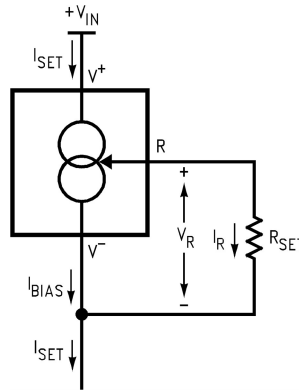

Figure 13. Basic Current Source
- (1) Unless otherwise specified, tests are performed at $T_j = 25^\circ C$ with pulse testing so that junction temperature does not change during test
- (2) Set current is the current flowing into the V^+ pin. For the Basic 2-Terminal Current Source circuit shown in Figure 13, I_{SET} is determined by the following formula: $I_{SET} = 67.7 \text{ mV}/R_{SET}$ (@ $25^\circ C$). Set current error is expressed as a percent deviation from this amount. I_{SET} increases at $0.336\%/^\circ C$ @ $T_j = 25^\circ C$ ($227 \mu V/^\circ C$).
- (3) I_{SET} is directly proportional to absolute temperature ($^\circ K$). I_{SET} at any temperature can be calculated from: $I_{SET} = I_o (T/T_o)$ where I_o is I_{SET} measured at T_o ($^\circ K$).
The total current through the LM134 (I_{SET}) is the sum of the current going through the SET resistor (I_R) and the LM134's bias current (I_{BIAS}), as shown in Figure 13.